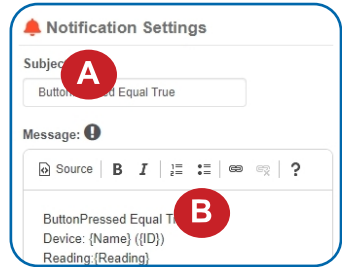

Figure 19
See Figure 19.
- B.** Customize the message body for the notification. See Figure 19.